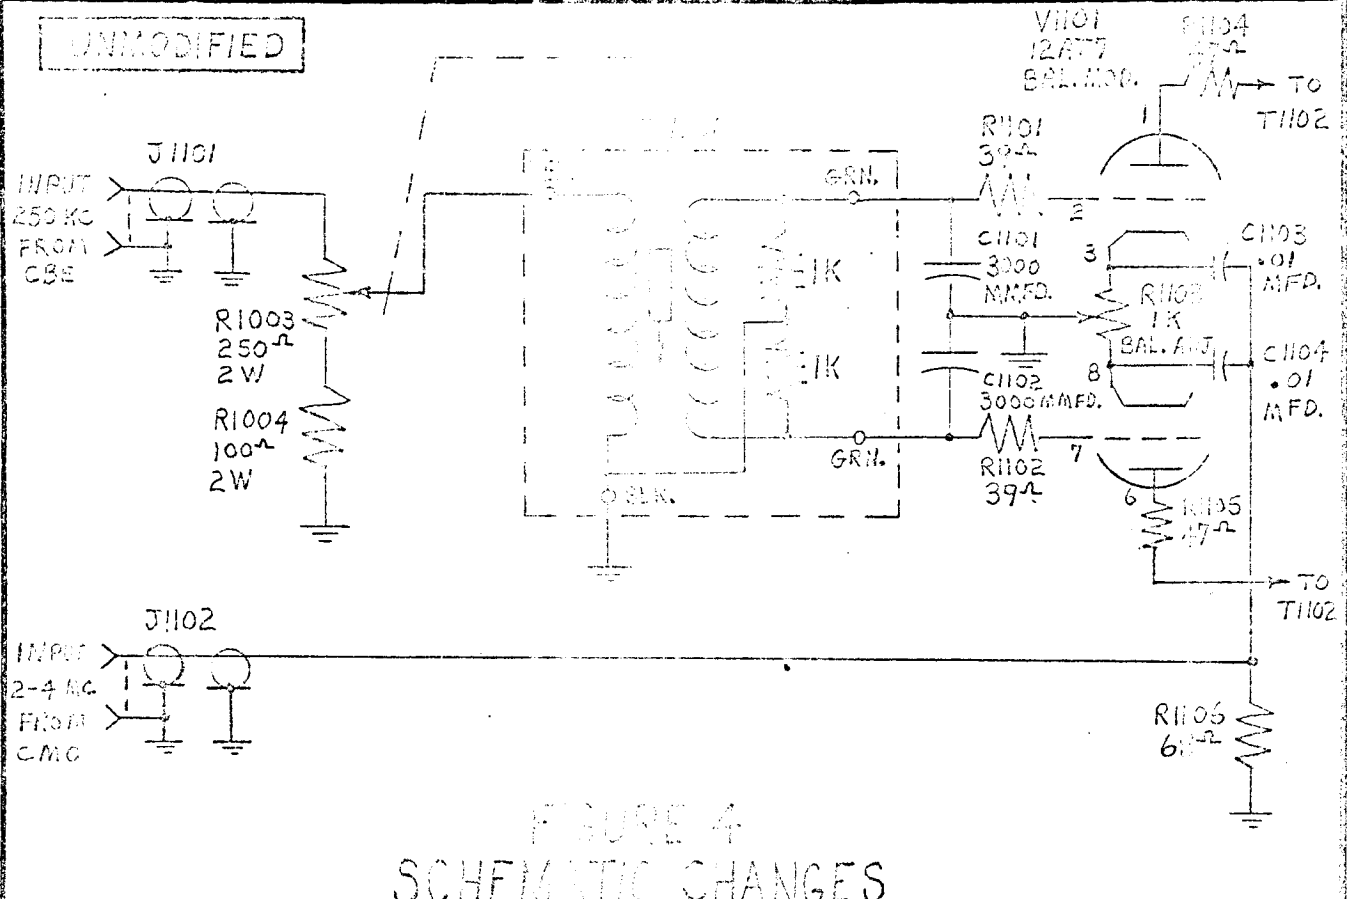

FIGURE 4
24. See figure 4 for schematic diagram.